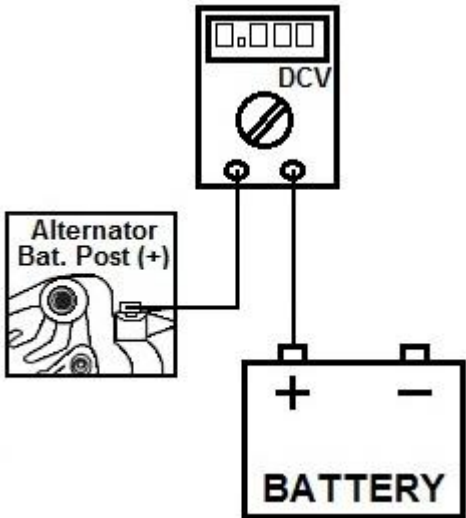

Figure 2
3. With a voltmeter, measure the voltage drop between battery (+) and alternator output post (Figure 2). Your voltage should be less than 0.40VDC. If it is higher, it may be poor connections between the alternator and battery. It could also be undersized battery cables, loose or improperly crimped terminals, or corroded connections.